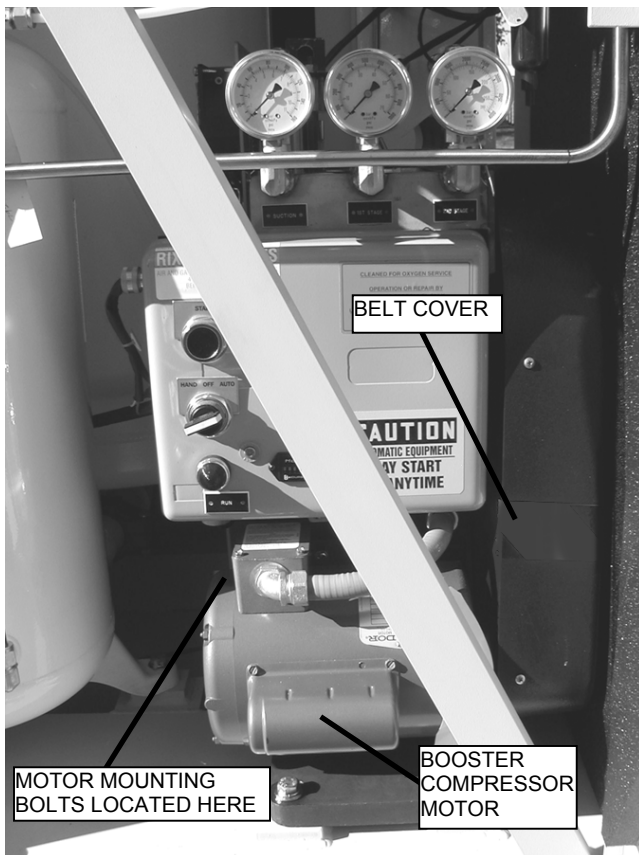

Figure 20. Booster Compressor Motor.
- Set the booster compressor control selector switch (HOA) to OFF (see WP 005 00, Figure 20).
- Loosen the motor mounting bolts (see Figure 20).